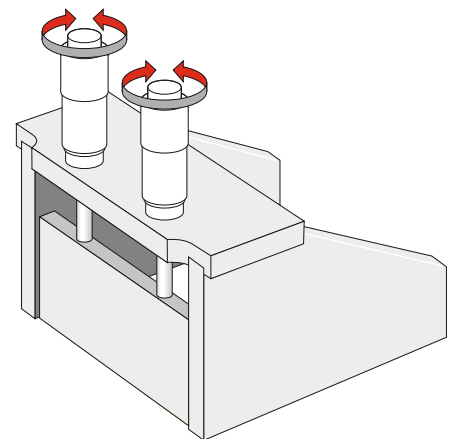

Figure 3
- 2 Adjust the micrometers to the desired blade gap (Figure 3).